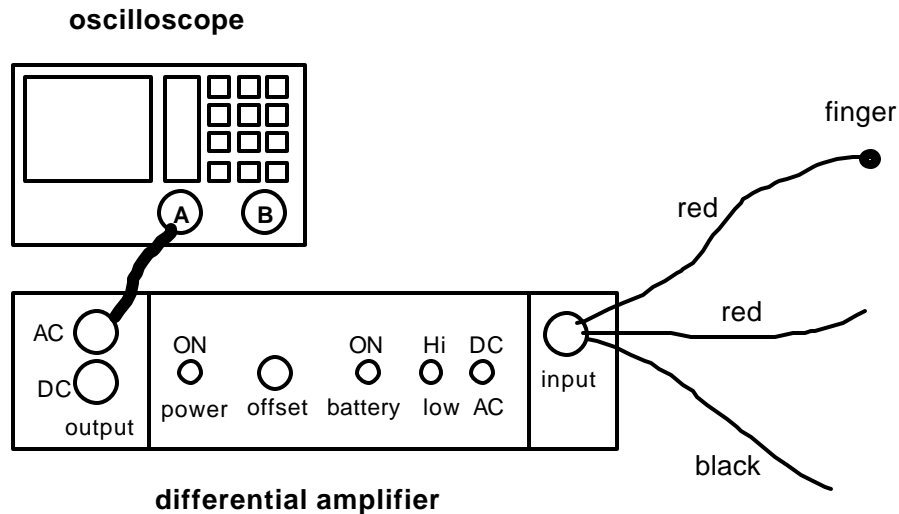

Figure 4
- c) Touch one of the red input clip with your finger (see figure 4).